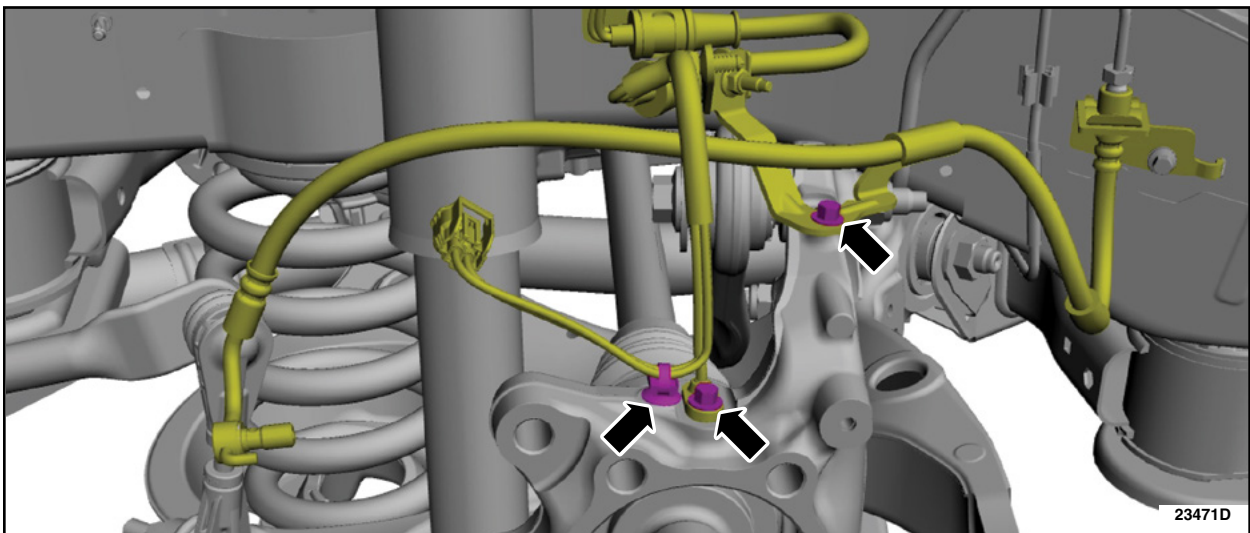

FIGURE 4
8. Remove the LH rear wheel speed sensor bolt and position the wheel speed sensor aside. Then, remove the brake hose bracket bolt and position the brake hose bracket aside. See Figure 4.